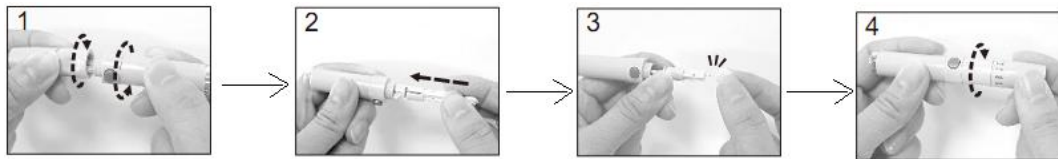

Figure 3.6B Operation for Lancing Device and Blood Lancet
4. Close the end cap of the lancing device. Slide into the locking position. Refer to figure 3.6B